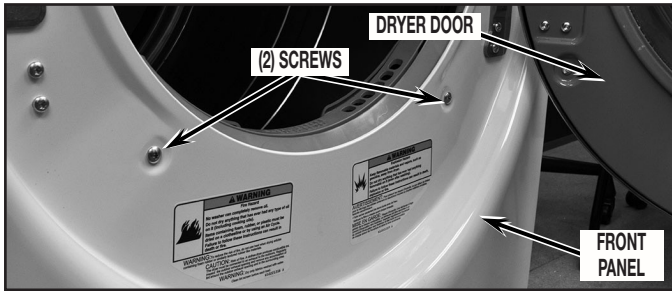

FIGURE 5
- Remove front panel assembly by opening door and remove the two (2) screws as shown in *Figure 5*. After removal of these screws, close door.